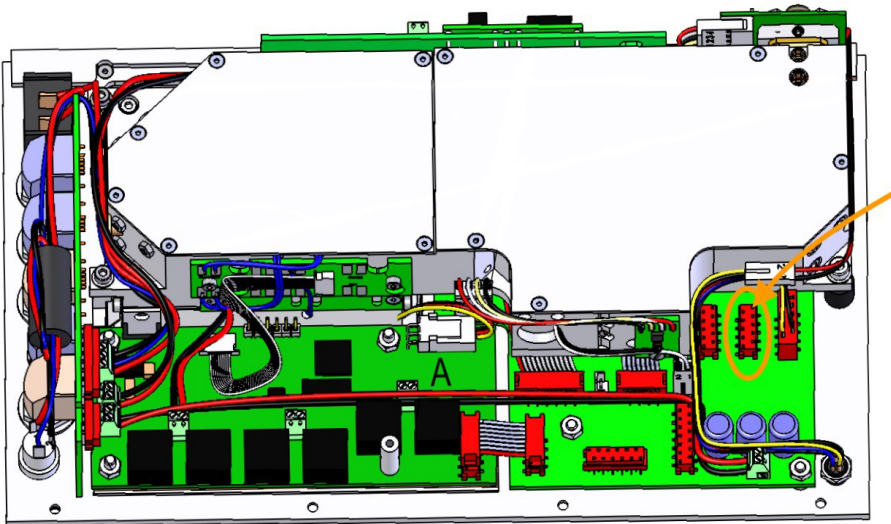

*Figure 8: Connection port to program IC08407*
Use the specified adapter and connect your PC with the correct port on PL11084 (compare Figure 7 and Figure 8).
- If it doesn't function please check the complete connection (compare Figure 8) and if the device is on